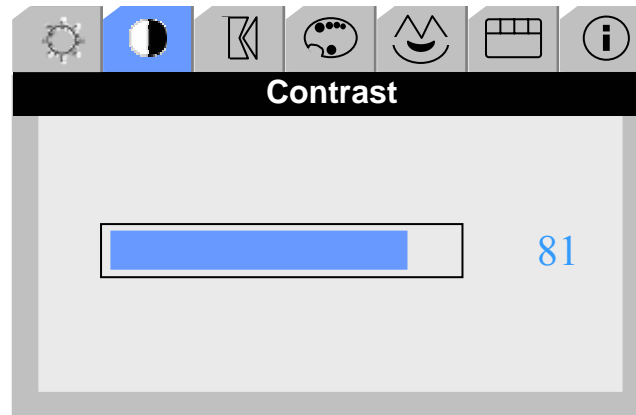

Figure 25: Contrast Tab
2. Using the + or – button, choose the Contrast tab, see Figure 25.